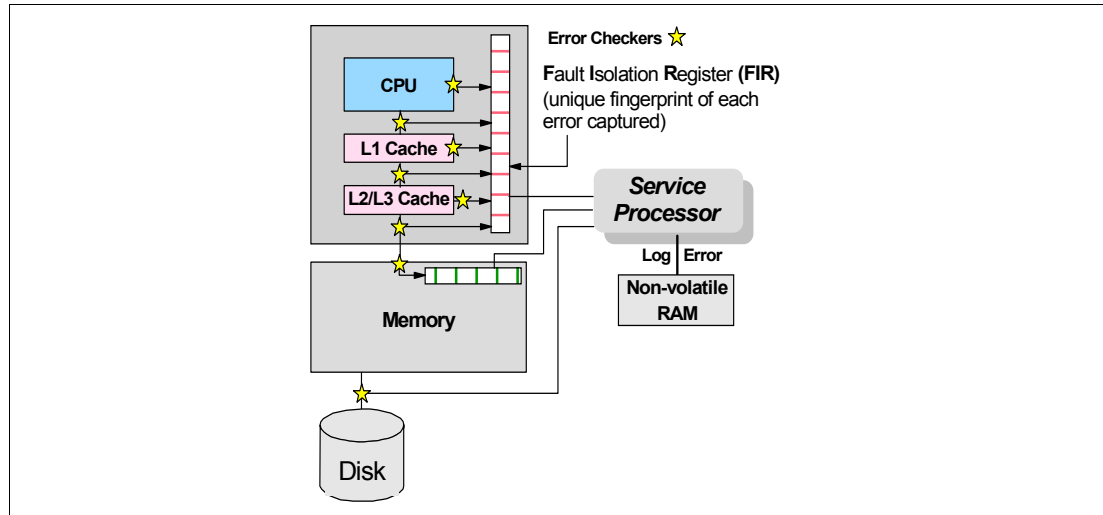

Figure 3-1 Schematic of Fault Isolation Register implementation
Any errors that are detected by the pervasive error checkers are captured into Fault Isolation Registers (FIRs, shown in Figure 3-1), which can be interrogated by the service processor (SP). The SP in the p5-570 has the capability to access system components using special-purpose service processor ports or by access to the error registers.